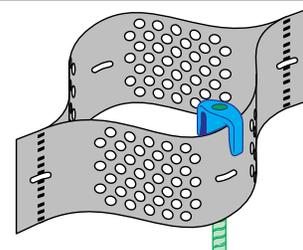

Figure 3 ATRA® Anchor Placement
- Partially expand the Geoweb® section and place the end cell of the section over its corresponding edge stake. Ensure the ATRA® Stake Clip arm is hooked over the cell wall. Refer to Figure 3.